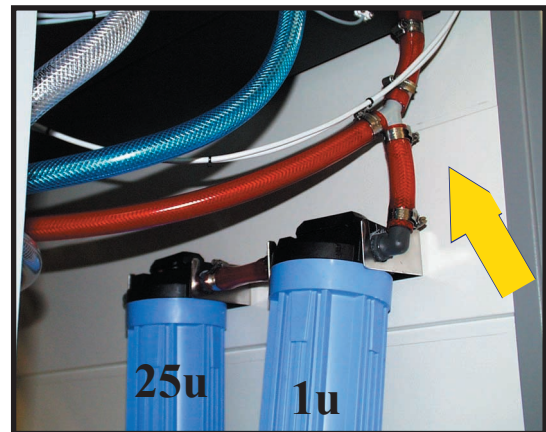

Fig. 8.
7) Install one Y connector on the red outlet hose from the old pump, and connect it to outlet of filter 1u. Hereafter the two filters are connected with a piece of red hose, as shown at Fig. 8.